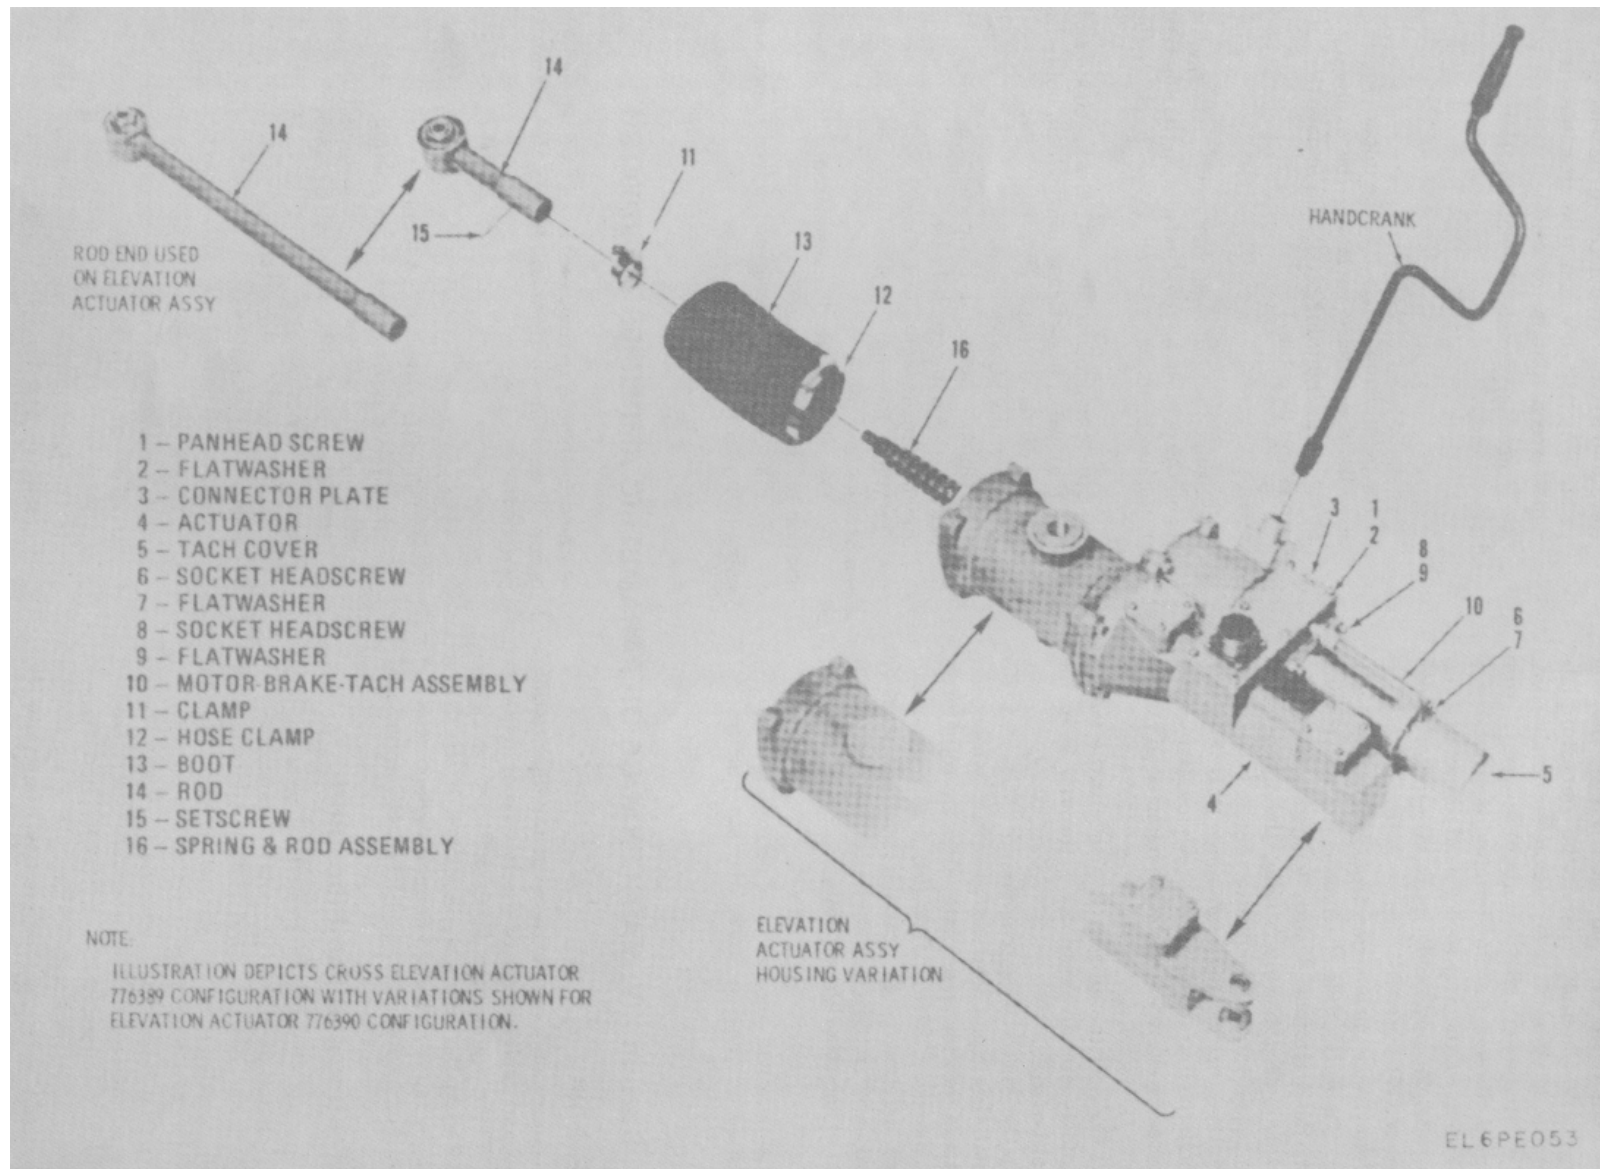

Figure 5-27. Antenna Actuator, Disassembly View Showing the Motor-Brake-Tachometer.
(5) Remove the quick-release pin which secures the other end of the actuator support trailing arm to the inside of the right elevation gimbal shaft assembly.
(6) Remove the actuator (with attached support trailing arm).
(7) Install the stow bar by attaching one end of it (using quick-release pin) to the bracket on the inside of the right elevation gimbal shaft assembly.
(8) Replace the actuator by performing steps (1) through (7) above in reverse order.
c. *Motor-Brake Tachometer Removal* (fig. 5-27). To remove the motor-brake-tachometer from either actuator it will be necessary to remove the actuator from the antenna (refer to para a or b above). After the actuator is removed proceed as follows to remove the motor-brake-tachometer:
(1) Remove the six pan-head screws and flat washers (1, 2). Carefully separate the connector plate (3) from the actuator (4) to expose the terminal board.
(2) Disconnect the numbered wires from terminals 1 through 7 on the terminal board.
(3) Remove the four socket head screws and flat washer (8, 9) and slide out the motor-brake-tachometer (10).
d. *Motor-Brake Tachometer Replacement* (fig. 5-27).
(1) Carefully guide the motor and brake wires toward the terminal board located under the connector plate (3) while sliding the motor-brake tachometer (10) into the actuator (4).
(2) Use the locking-compound (MIL-S-22473) and install the four socket head screws and flat washer (8, 9) to secure the motor-brake-tachometer (10) to the actuator (4).
(3) Connect the numbered wires for the motor-brake tachometer to terminals 1 through 7 on the terminal board.
(4) Use the locking compound (MIL-S-22473) and install the six pan head screws and flat washers (1, 2) to secure the connector plate (3) to the actuator.